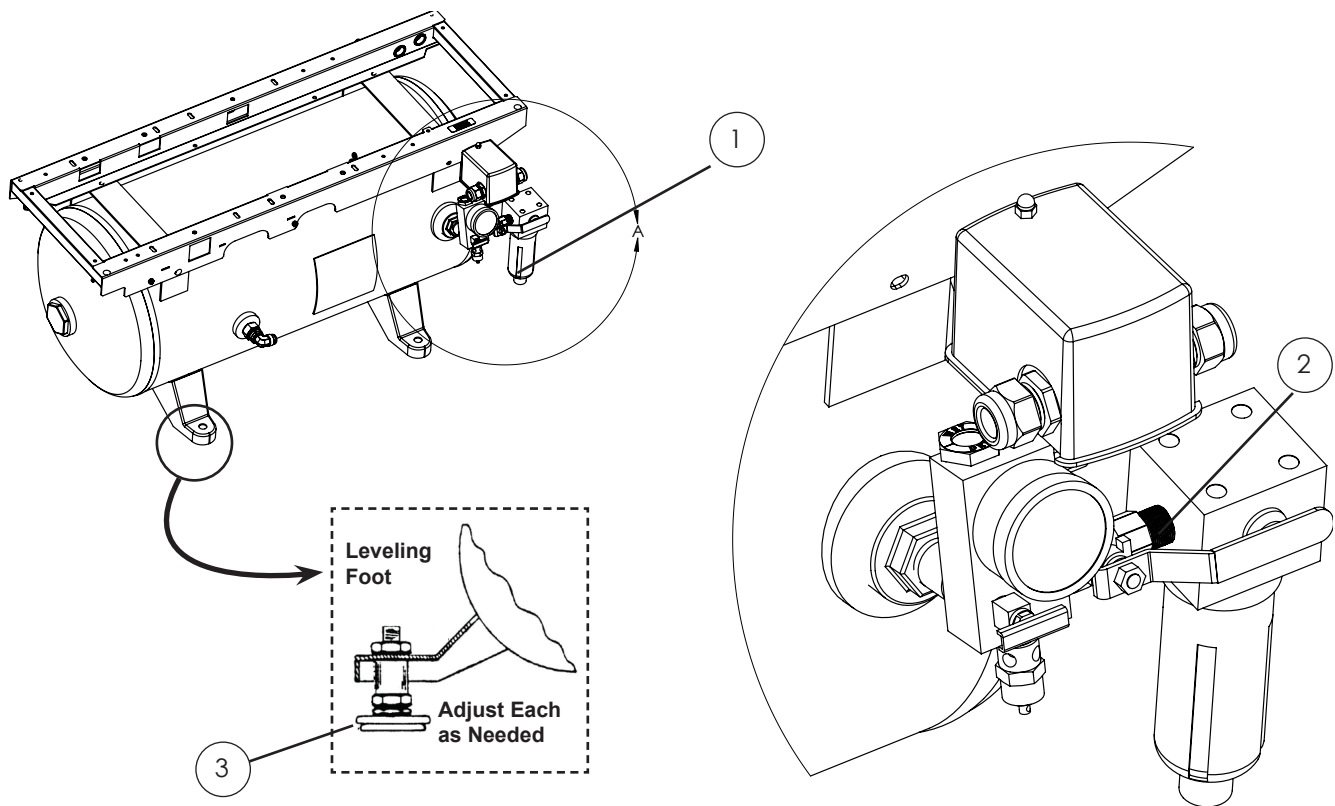

Figure 5. Outlet Filter Replacement
Step 4: Outlet Filter and Leveling Feet Replacement (See Figure 5)